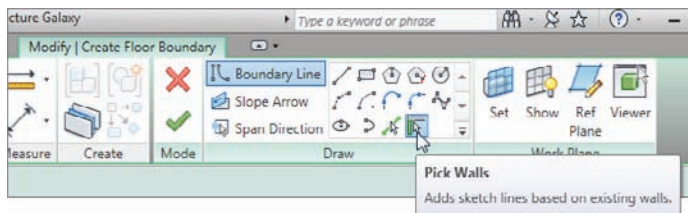

FIGURE 6.8 Pick Walls ensures that that edge of your slab will move if the wall moves.
The best way to add a slab is to use the Pick Walls button as much as possible (see Figure 6.8). In doing so, you tell Revit that this edge of slab needs to move if this wall moves. Pick Walls is the default Draw option.
1. In the Modify | Create Floor Boundary tab, click the Pick Walls button, as shown in Figure 6.8, if it is not already picked.